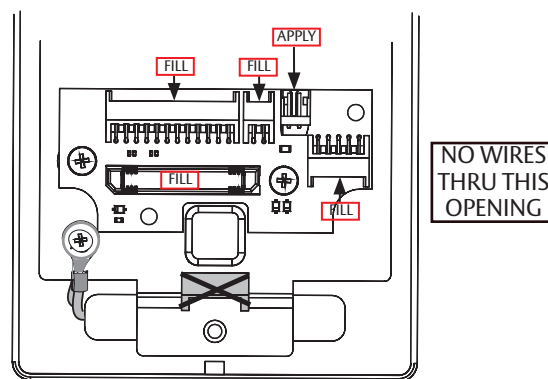

Figure 7-3A
2. Ensure all connector pins and contacts (Figure 7-3A) are covered. (Do not overfill or over-apply**)
IMPORTANT: Do not run wires through bottom flange hole in plate; it will damage wires and controller connector. Route wires around flange (See Figures 7-3A - 7-3B).